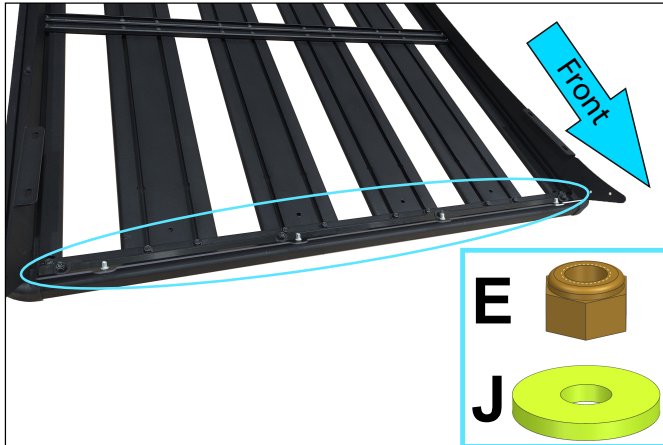

Fig. 12
8. Install and fix the wind deflector bracket (item 3) on the roof rack platform using flat washers 8 (item J), nuts M8 (item E) (fig.12).